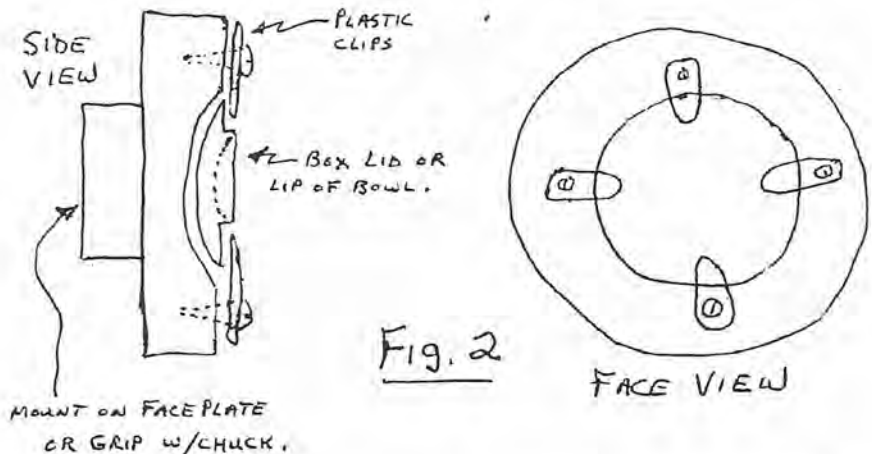

Fig. 2
- 4.) This fixture (see Fig. 2) is great for holding any vessel that has a lip. Use plastic "panel clips" to hold pieces in cup-chucks. The clips are available at any hardware type store. Take a scrap block of wood, turn the recess to fit the vessel then rotate the clips over the lip of the vessel and tighten in place. The inside of a lid or the bottom of a vessel can now be turned.
When using any tool, bring the heel of the bevel up to the wood first then pivot the cutting edge up to the wood (see fig.2). When you first start on a rough, out-of-round chunk of wood it might be hard to gauge this accurately but later when the turning has been brought to round it will be easy to see.